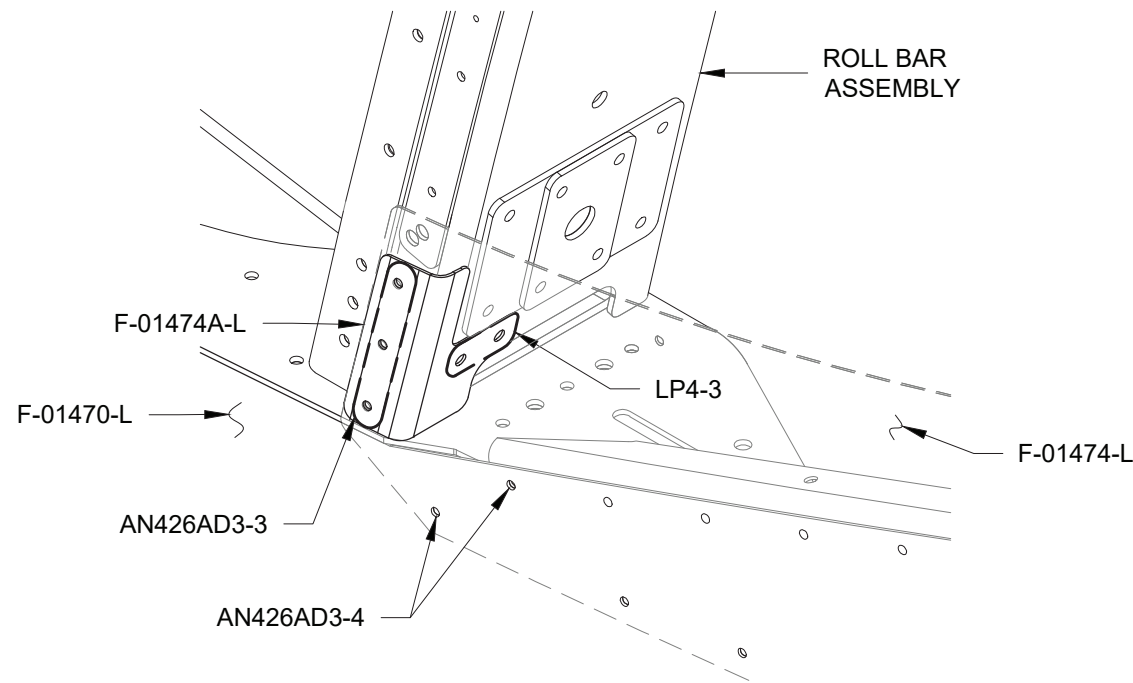

FIGURE 2: RIVET STIFFENER ANGLES AND SIDE SKINS
Step 3: Rivet the F-01474A-L & -R Stiffener Angles to the F-01474-L & -R Aft Fuse Top Side Skins, then to the Roll Bar Assembly using the rivets called out in Figure 2.
Step 4: Rivet the remaining holes common to the F-01474-L & -R Aft Fuse Top Side Skins and F-01470-L & -R Fuselage Side Skins using the rivets called out in Figure 2.